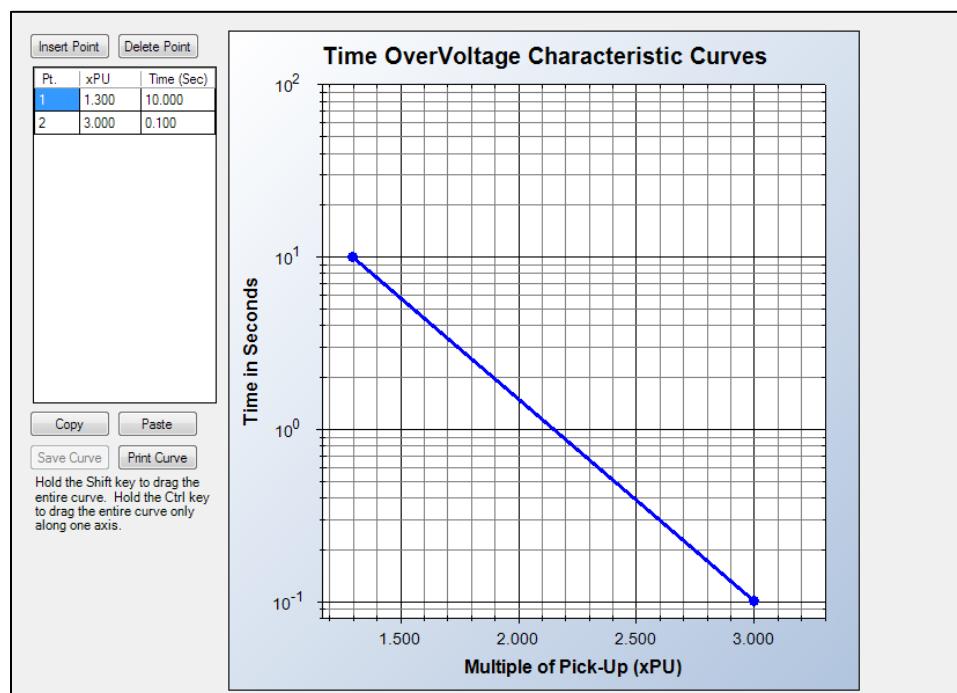

Figure 11-1. Time Overvoltage Characteristic Curves
*BESTCOMSPPlus* is used to set the 27P element Table Curves (T1, T2, T3, and T4). Using the Settings Explorer within *BESTCOMSPPlus*, open the Protection, Voltage, Overvoltage, Table Curves, Table Curve (1, 2, 3, or 4) tree branch and select the table curve to be modified. Refer to Figure 11-1. A minimum of 2 and maximum of 40 points can be entered for any one T curve. When you are satisfied with the values chosen, select Save Curve. Use the Settings Explorer to browse to the 59X-x element you wish to program and use the drop-down menu under Curve to select T1, T2, T3, or T4.